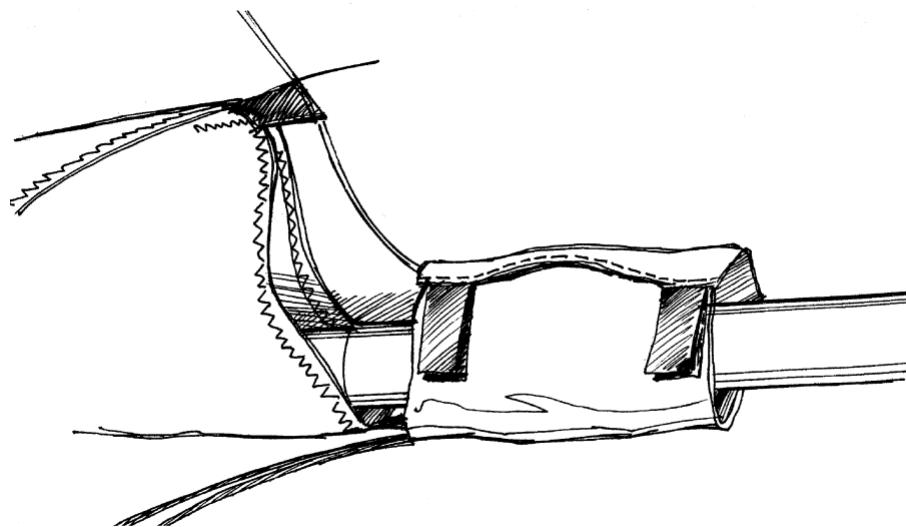

Fig. 43
4.1.6. Detach the hook of the top rear wire from the kingpost and attach it to the kingpost hole in the sail. Move the kingpost down. Fit the protective bag over the keel tube/rear wires junction (Fig. 43).